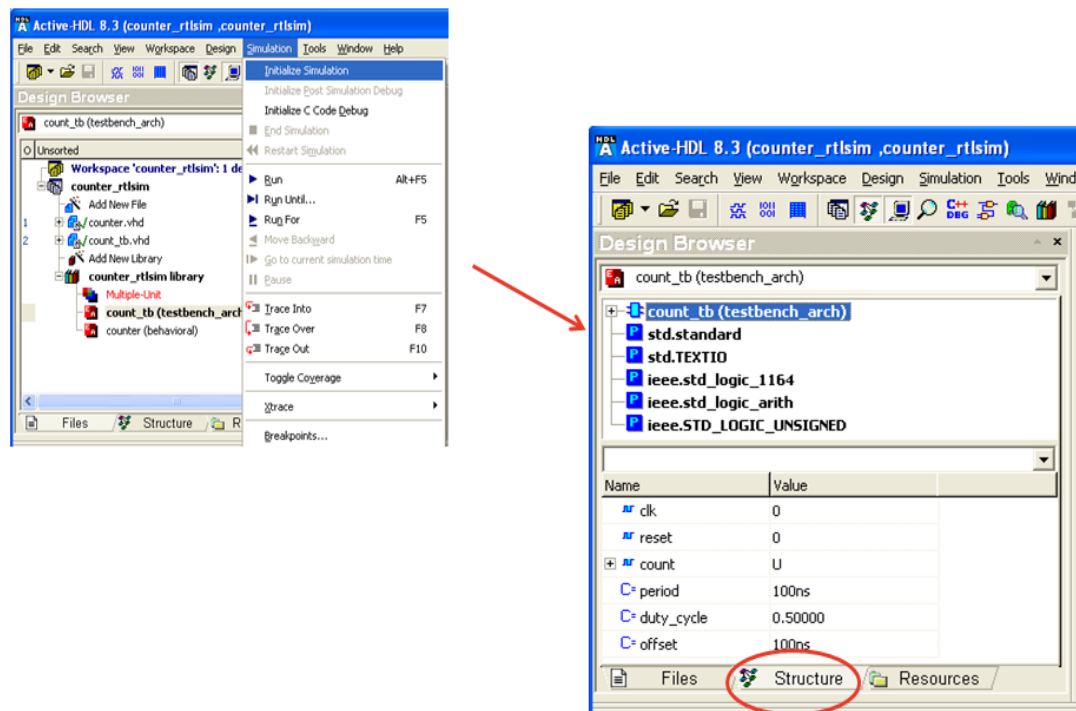

Figure 10-11 : Initialize Simulation.
9. Click on Simulation > Initialize Simulation. After Initialization, the “Design Browser” view will be changed from “file” view to “Structure” view as shown in Figure 10-11.